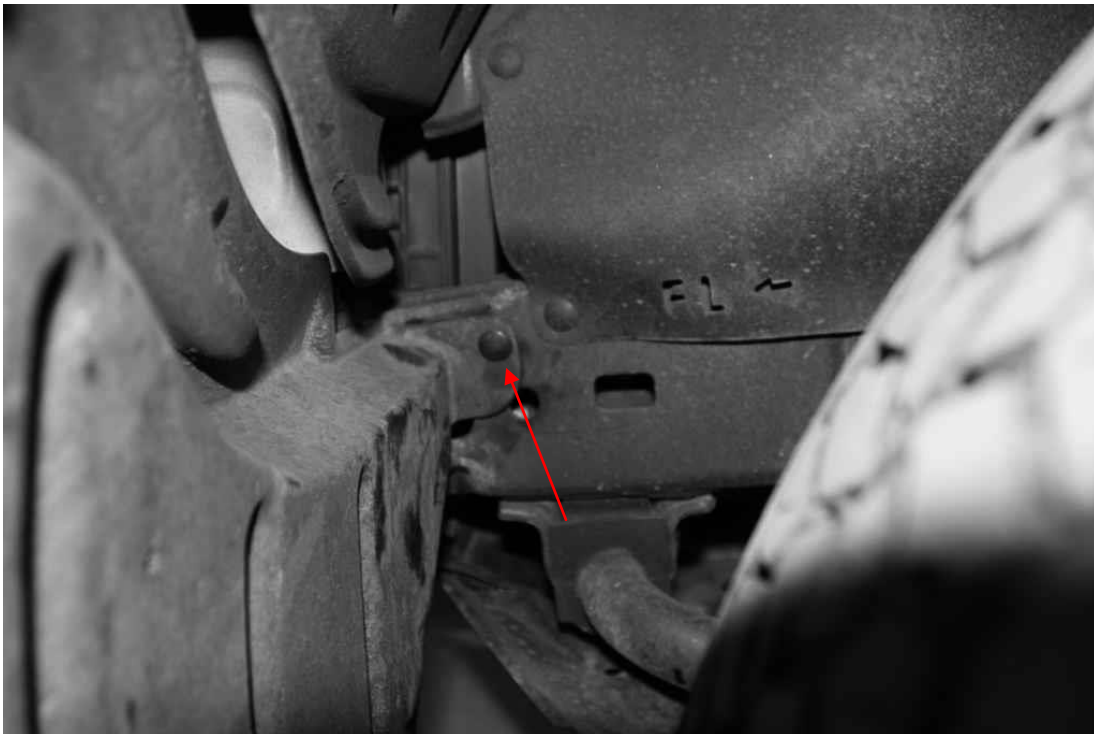

Figure 1 – Dart Clip Locations
1. Remove Dart Clip from front inner fender lining from frame. Complete Both Sides. See Figure 1.